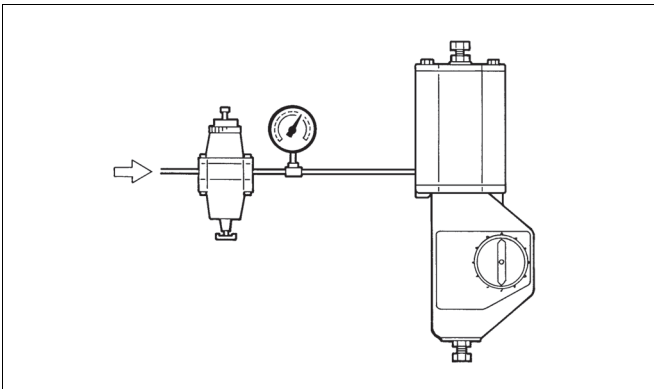

Fig. 14 Air supply for adjusting the tilting device
- Feed compressed air into the actuator via the pressure regulator, see Fig. 14.